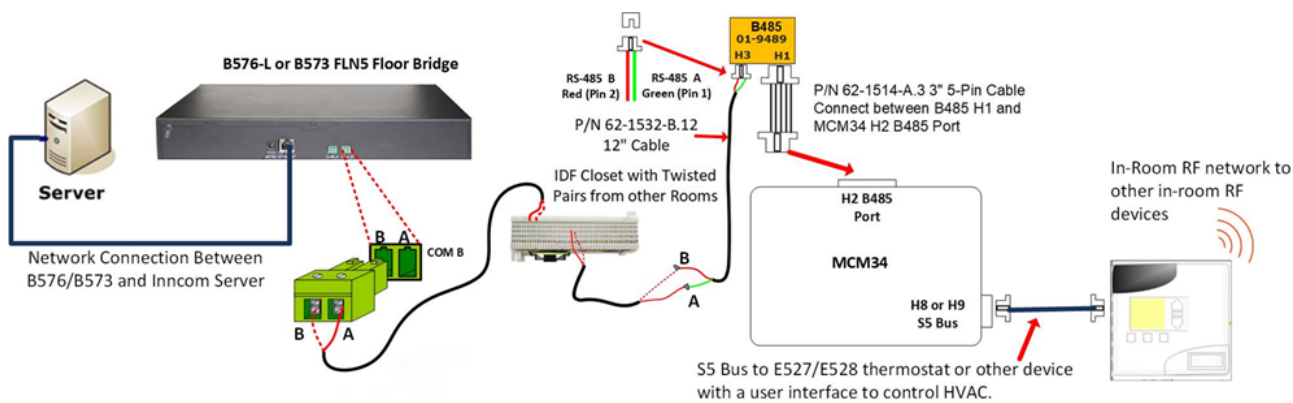

FIGURE 1 MCM34 RS-485 FLN5 ROOM GATEWAY TOPOLOGY USING 01-9489 B485 MODULE
- The MCM34 does not have RS-485 driver hardware internally installed, but requires connection to an RS-485 adapter. The MCM34 supports either of the two available Inncom RS-485 adapter modules, the P/N 01-9489 B485 RS-485 adapter or the P/N 203-250 E7/E528 RS-485 adapter. The 01-9489 B485 adapter connects to the MCM34 H2 header or the 203-250 adapter connects to the MCM34 H7 header. Figures 1 and 2 below show how the MCM34 connects to these adapters.